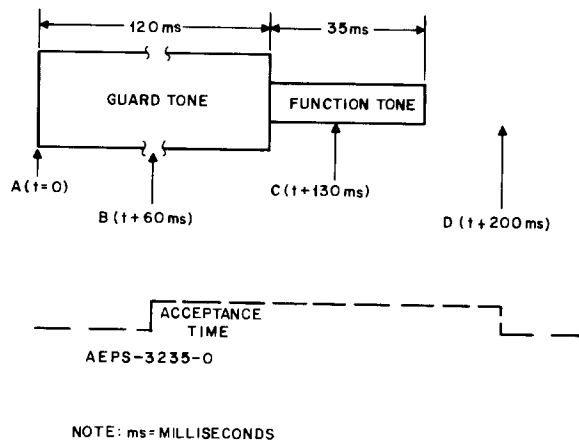

Figure 1. Tone Control Format, Non-Transmit Command
3.1.1 In all tone control applications, the tones are sent from the control point in a particular timing sequence (tone control format). All tones must be preceded by a 2175 Hz guard tone. The guard tone is used to activate circuits which detune a 2160 Hz bandpass filter in the guard tone decoder module. With the 2160 Hz bandpass detuned, all tones can pass through the guard tone decoder and then be routed to their respective decoders. The tone control format is shown in Figures 1 and 2.